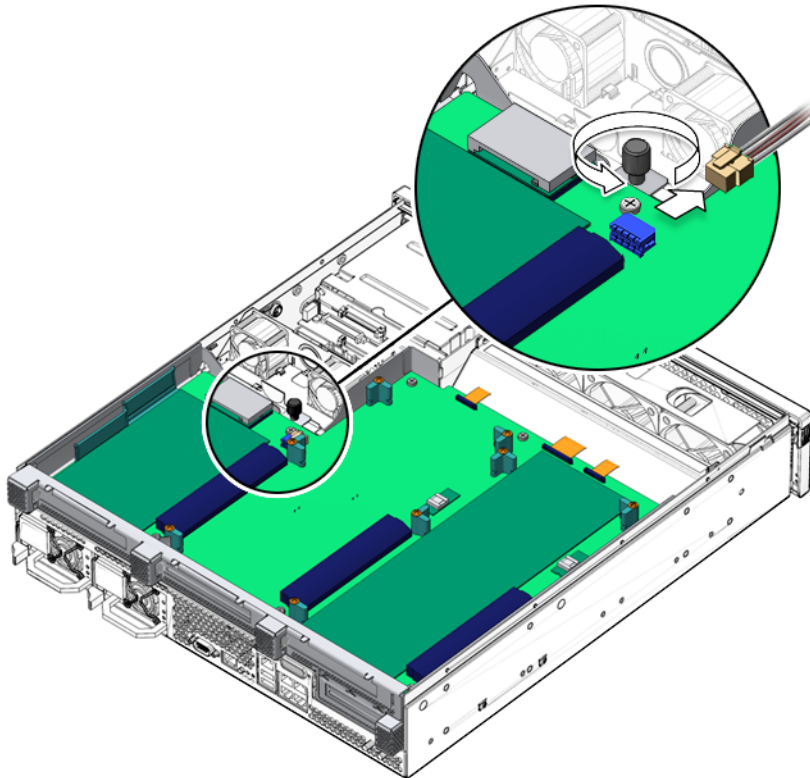

FIGURE 2-4 Disconnecting J2 and Loosening the Thumbscrew
1. Disconnect the cable at J2 and loosen the thumbscrew adjacent to it (FIGURE 2-4).